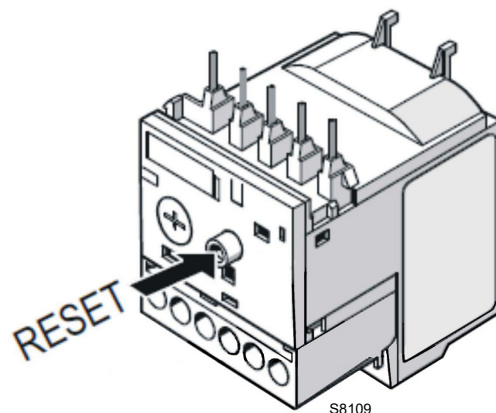

Fig. 37
- To reset, in the case of an intervention of the electronic relay, press the button "RESET" (Fig. 37).